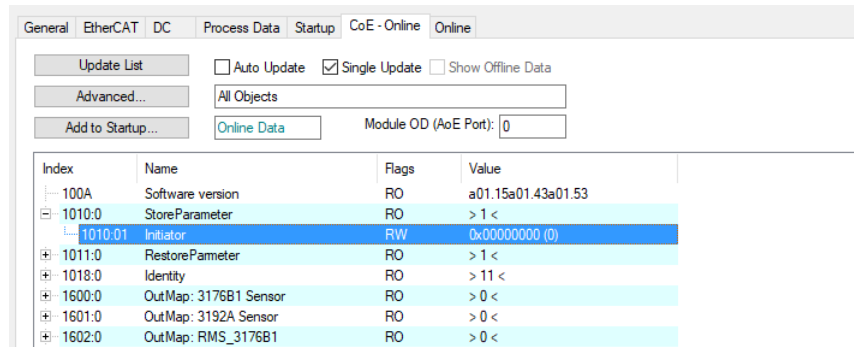

Fig. 6-37 Index 1010:01 Initiator (StoreParameter) selected.
- Navigate to Index **1010:0 StoreParameter** and expand it in the tree to reveal the Index **1010:01 Initiator** (Fig. 6-37).